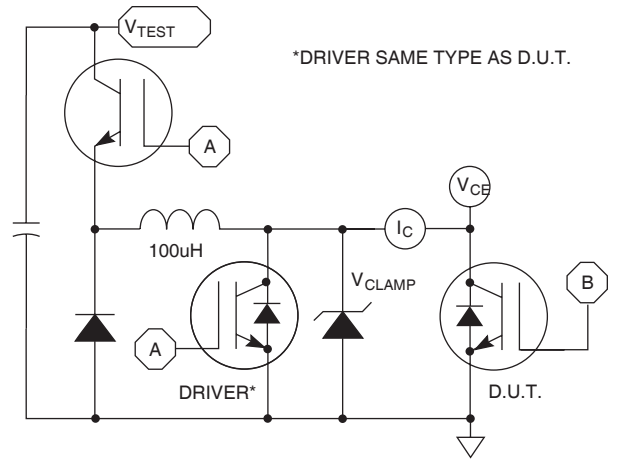

Figure 24, EON1 Test Circuit
- ① Repetitive Rating: Pulse width limited by maximum junction temperature.
- ② For Combi devices,  $I_{ces}$  includes both IGBT and FRED leakages
- ③ See MIL-STD-750 Method 3471.
- ④  $E_{on1}$  is the clamped inductive turn-on-energy of the IGBT only, without the effect of a commutating diode reverse recovery current adding to the IGBT turn-on loss. (See Figure 24.)